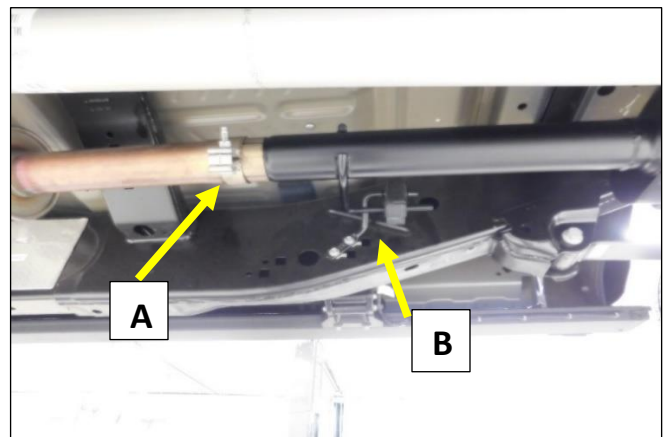

Figure 6
2. Install the hanger rod isolator assembly (B) on to the front hanger rod (B). Install the two bolts into the frame rail. Level the muffler assembly and tighten the band clamp on the resonator **Fig.6**